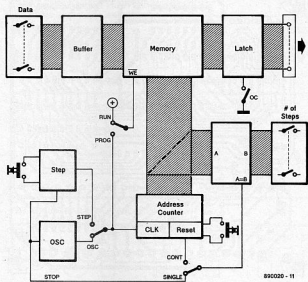

Fig. 1. Block diagram of the test pattern generator for digital circuits.
The block diagram in Fig. 1 shows that the heart of the circuit is formed by a RAM memory. Two 8-way DIL switch blocks serve to program the test words and the length of the test word sequence. The memory locations are addressed by a counter, which counts from 0 to 255. The generated address (A) is compared to the preset length of the sequence (B). When A and B are equal, output $A=B$ of the word comparator is actuated. Depending on the position of the mode selection switch, the test pattern is either stopped or repeated. When the switch is set to CONTINUOUS, the output signal of the comparator causes the address counter to be reset and to start counting from 0 again. When the mode switch is set to SINGLE, the oscillator is inhibited, so that the last counter state is 'frozen'.